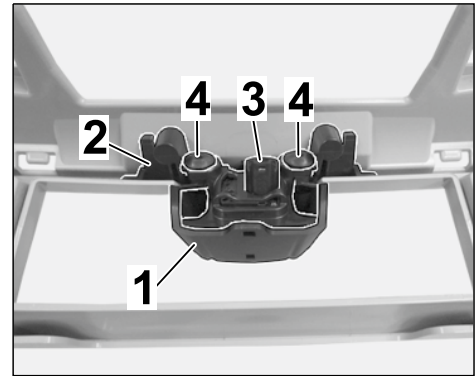

Figure 9
2.6.5 **ONLY** for vehicles with front and rear ParkAssist incl. reversing camera and Surround View (8A4): Convert trim with holder and front camera (⇒ *Figure 9*).